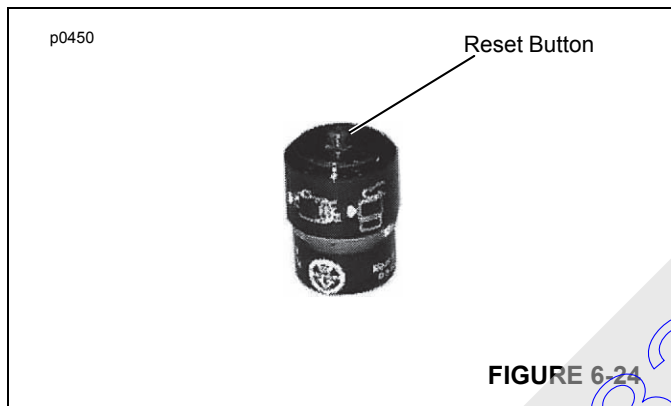

FIGURE 6-24
5. Reset the air cleaner restriction indicator by pushing in the reset button (Figure 6-24).